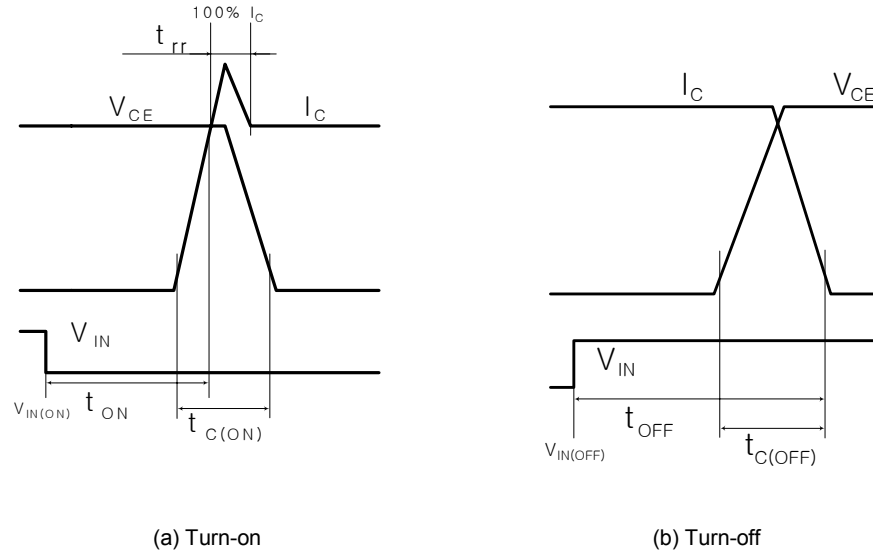

Fig. 4. Switching Time Definition
- t_{ON} and t_{OFF} include the propagation delay time of the internal drive IC. $t_{C(ON)}$ and $t_{C(OFF)}$ are the switching time of IGBT itself under the given gate driving condition internally. For the detailed information, please see Fig. 4.